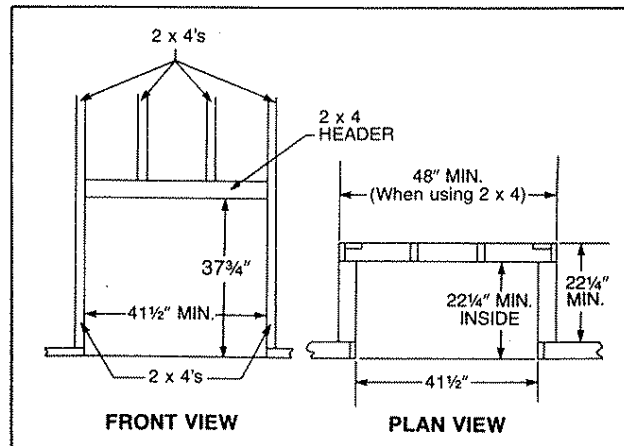
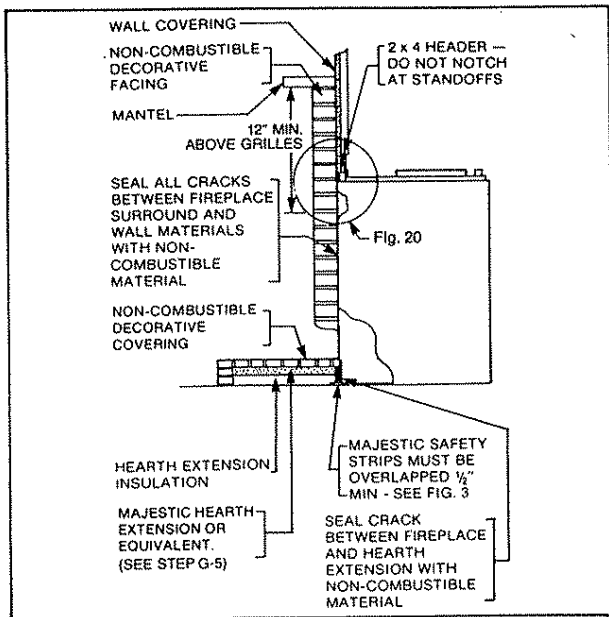

Fig. 18. Minimum fireplace enclosure dimensions.
Fig. 23. Sealing detail.
Fireplace framing can be built before or after the fireplace is set in place. Fig. 18 shows the minimum framing dimensions.
The header may rest on the fireplace standoffs. Framing should be positioned to accommodate wall covering and fireplace facing material. See Figs. 23 & 24 for typical arrangements. Nailing flanges provided on the side of the fireplace can be used to position the fireplace for a 5/8" finished wall covering, as well as anchor the fireplace. Using pliers, bend out the two (2) nailing flanges on each side, parallel with the fireplace surround. Nail through the flanges into the vertical framing members. (See Fig. 18)